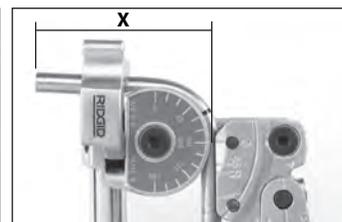

Figure 7 – After
• With the mark on the tube appropriately aligned, move the Carriage so that the “0” Line aligns with the 90 degree line on the Form. (See Figures 7 and 9 – After).